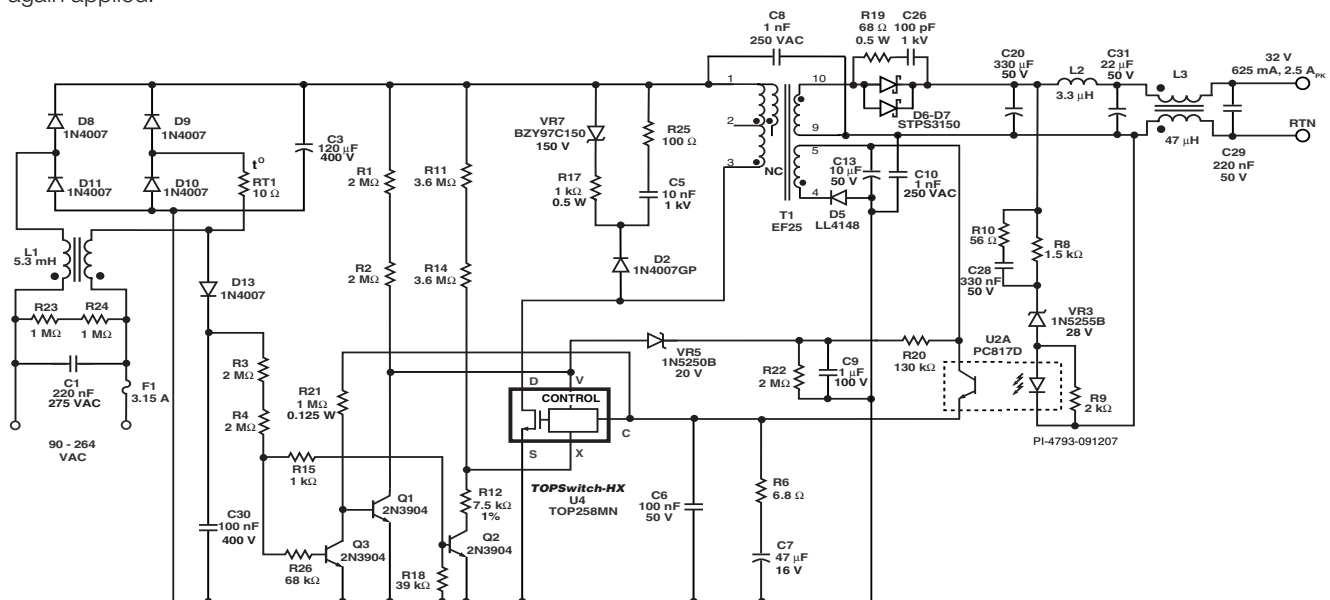

Figure 22. 20 W Continuous, 80 W Peak, Universal Input Power Supply
- A soft finish circuit is recommended for high output voltage designs (> 12 V). This ensures startup with full load at low line. In Figure 22, R23, D6 and C19 show one implementation of the soft finish circuit.
The circuit shown in Figure 22 takes advantage of several of TOPSwitch-HX features to reduce system cost, power supply size and improve power supply efficiency while delivering significant peak power. This design delivers 20 W continuous and 80 W peak at 32 V from an 85 VAC to 265 VAC input. A nominal efficiency of 82% at full load is achieved using TOP258MN.